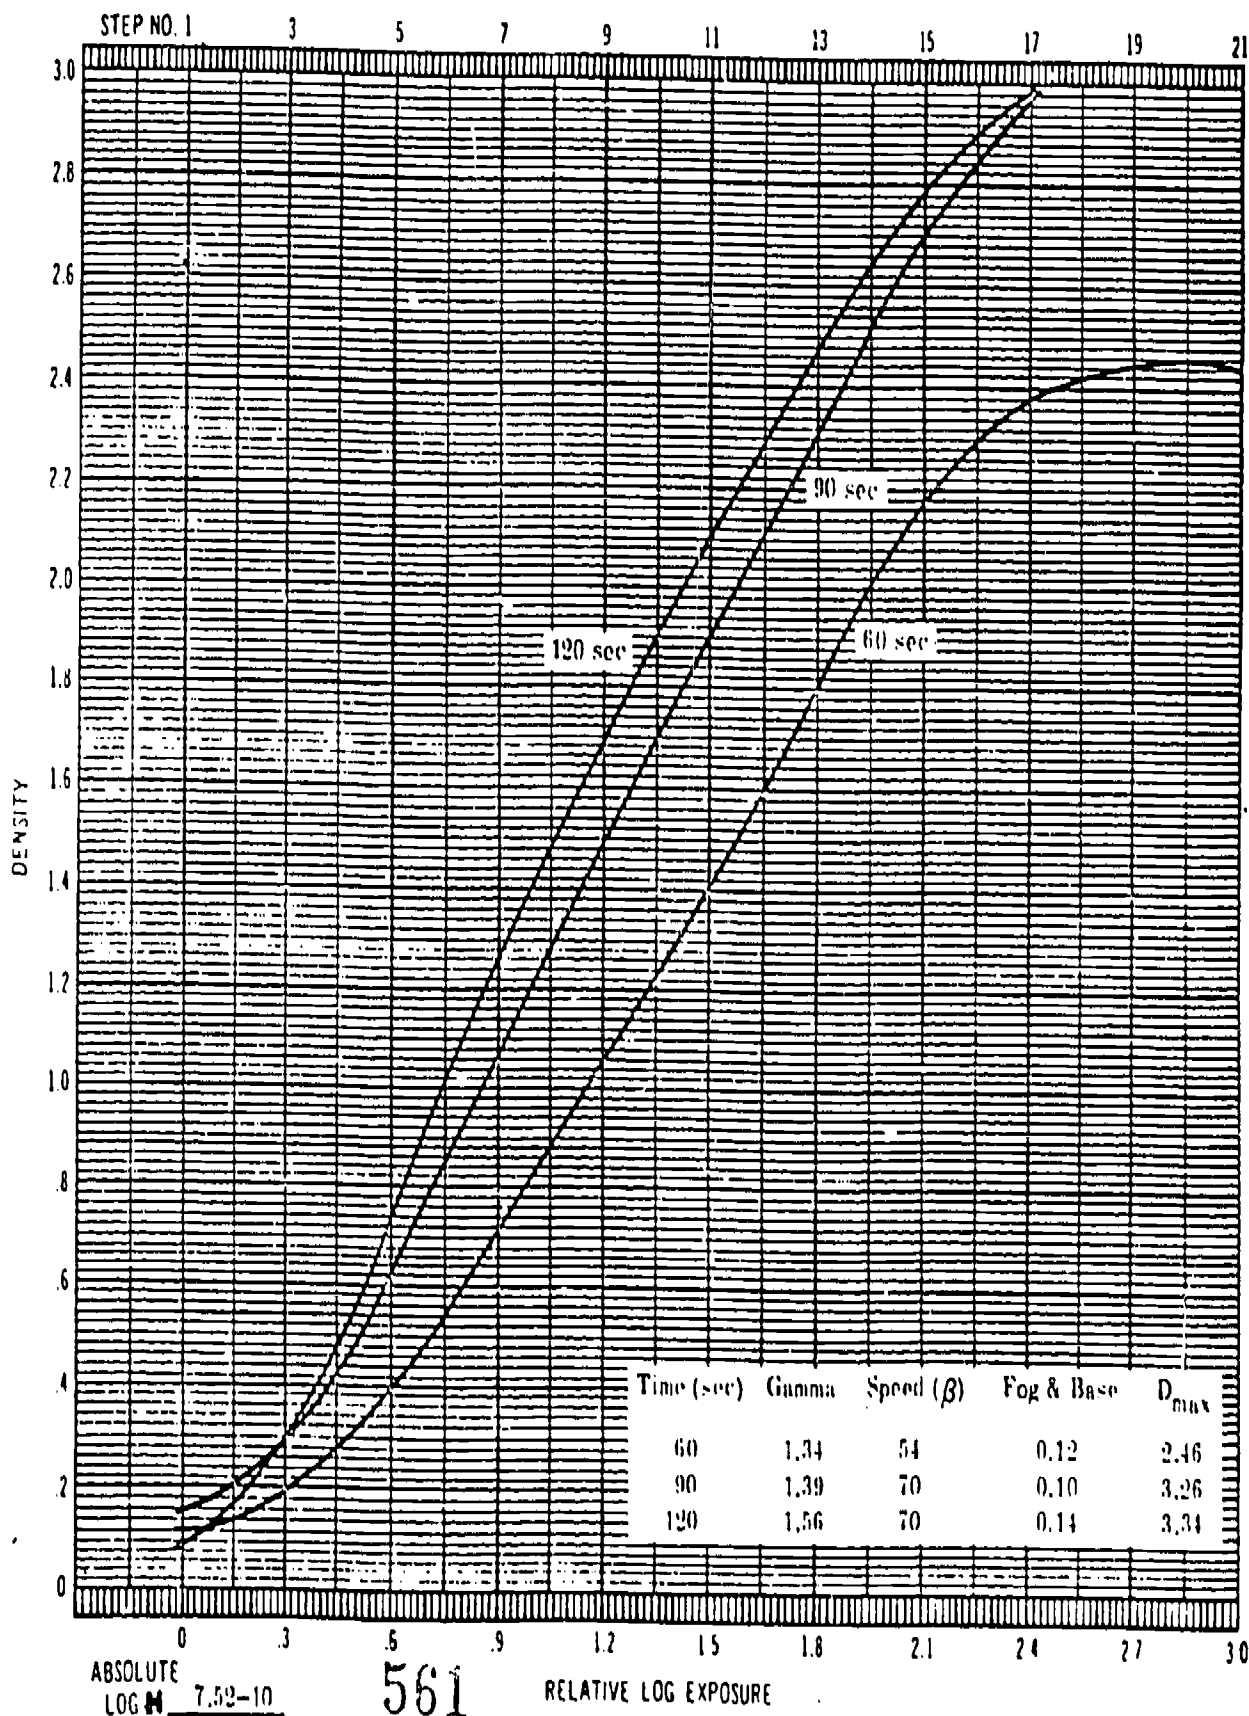

Figure 3-1. Phenidone-Glycin at 90° F.
721. Using figures 3-1 to 3-11, state how Phenidone-Glycin developer reacts under various processing conditions.
Evaluation Against Conditions of Use. The behavior of the Phenidone-Glycin developer under various processing conditions is illustrated in the series H and D curves comprising figures 3-1 through 3-11. Curves for various processing times at 90°F are shown in figures 3-1 and 3-2 (films of different emulsion number). A 90-second developing time appears to give the optimum balance of speed and gamma. Increased developing time produces a large increase in gamma with a negligible change in speed. The Phenidone-Glycin developer is also suitable for use at 68°F, producing the developer shown in figure 3-3. Under these conditions, higher gammas are obtained, and the developer cannot be regarded as a low-contrast developer. However, according to data published by Kodak (Publication No. M4, Kodak Materials for Aerial Photography), a low-contrast developer is available for use with Plus X Aerecon film at 68°F.
1. What is the best developing time for the optimum balance of speed and gamma illustrated by the curves for various processing times in figures 3-1 and 3-2 (films of different emulsion in number)?